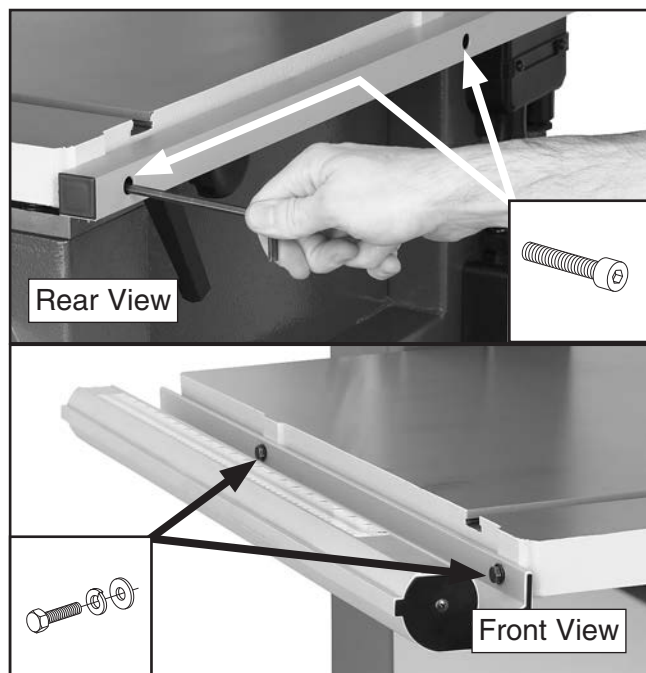

Figure 9. Rail installation.
13. Attach the rear rail to the table with (2) M6-1 x 16 cap screws (see **Figure 9**).
14. Attach the front rail with (2) M6-1 x 20 hex bolts, (2) 6mm lock washers, and (2) 6mm flat washers, as shown in **Figure 9**.